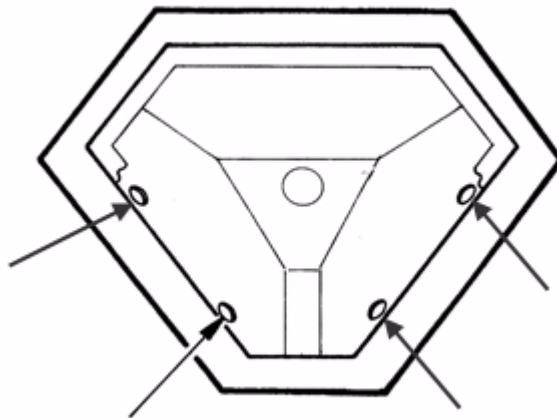

Figure 3.5 Mounting Holes - EX36(N) Camera Housing
5. Drill holes into the mounting surface. Depending on the type of mounting surface (brick, wood, etc.), you may need to pre-drill the holes for the mounting screws. Bosch recommends that you use the housing as a drill template--refer to *Figure 3.5* for the location of the mounting holes in the housing--to mark the location of the holes, and then drill the holes. This way no burrs or debris will fall into the housing.